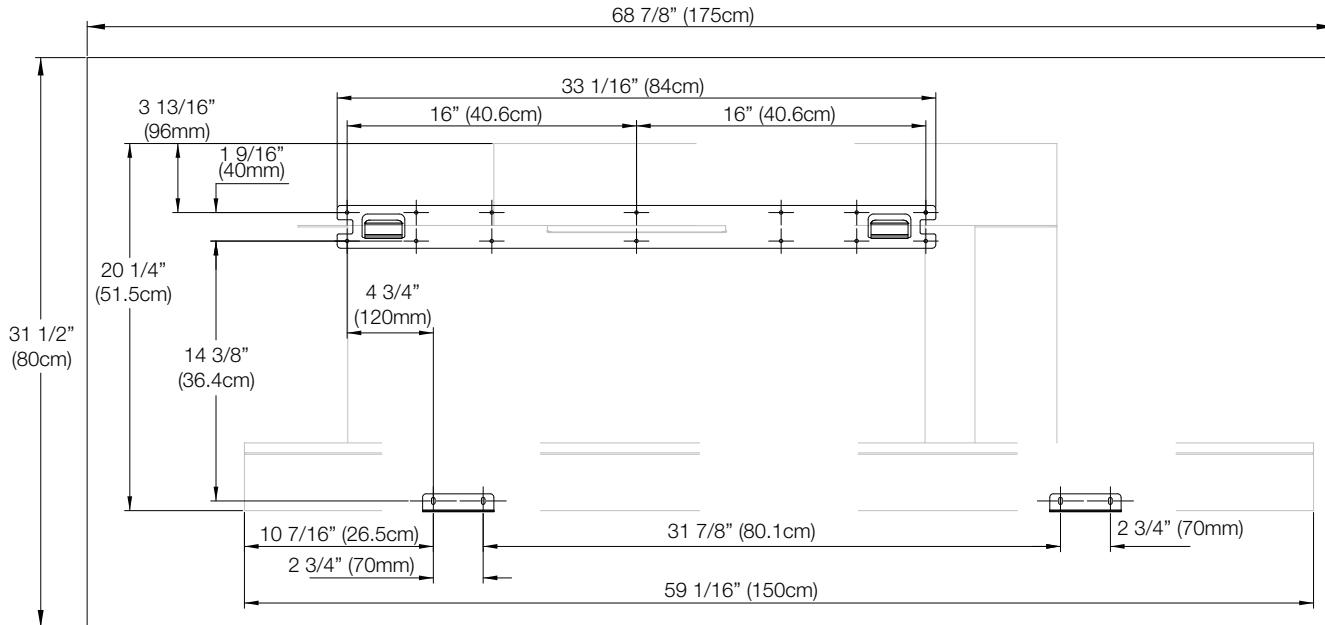

Fig. 2
- Using the wall mounting installation template (Fig. 2), mark out the locations of the rear wall bracket and bottom brackets on the wall.